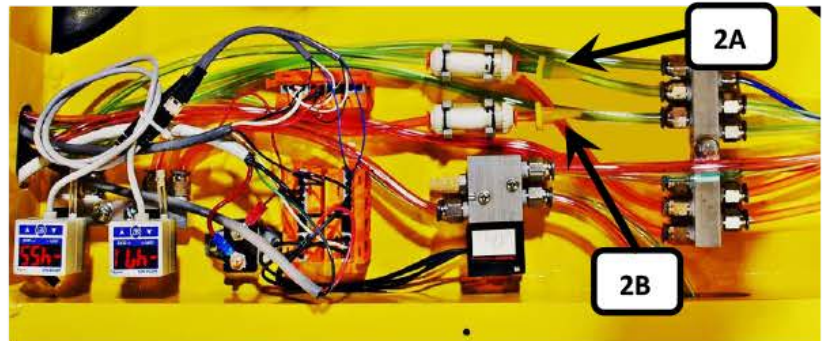

FIGURE 2
- 2) Remove the hose from the filter that attaches to the pad system manifold of the affected circuit (2A blue/green or 2B red). Install a short piece of 1/4" [6.35 mm] O.D. hose that is capped off to create a fitting plug, and install this in the filter as shown in **FIGURE 2**.
Note, in **FIGURE 2** both filters are shown capped-off.